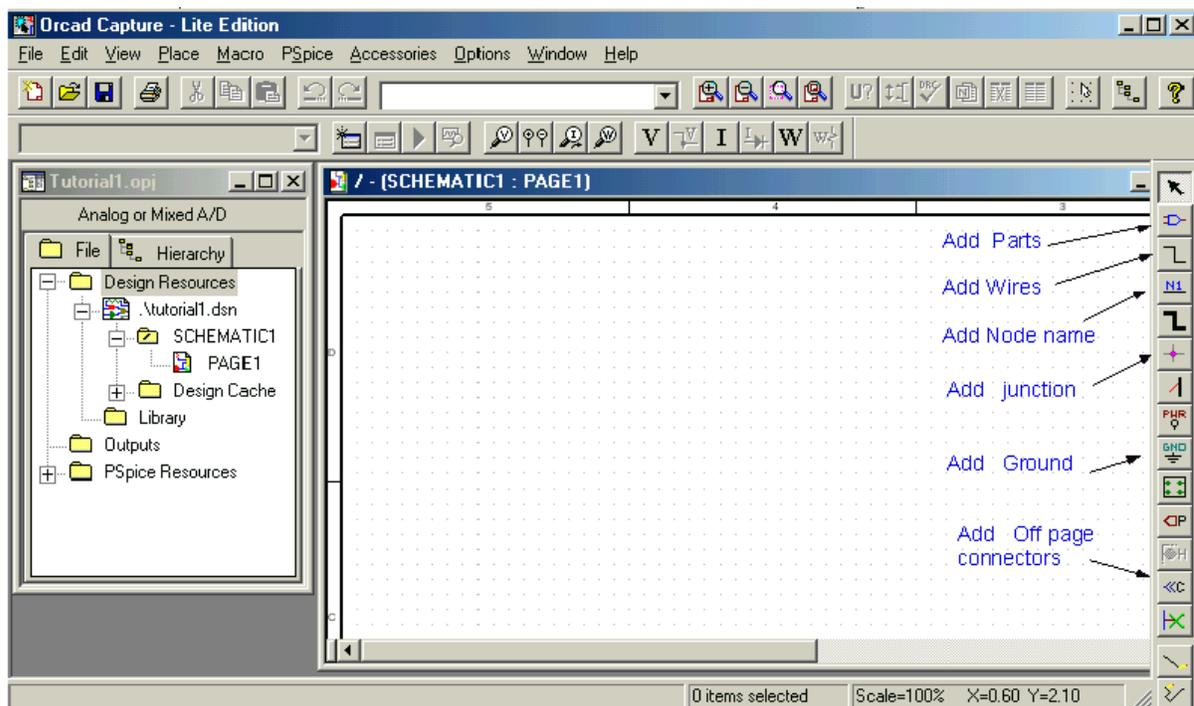

Figure 3: Design manager with schematic window and toolbars (OrCAD screen capture)
- After placing all part, you need to place the Ground terminal by clicking on the GND icon (on the right side toolbar – see Fig. 3). When the Place Ground window opens, select GND/CAPSYM and **give it the name 0 (i.e. zero)**. Do not forget to change the name to 0, otherwise PSpice will give an error or "Floating Node". The reason is that SPICE needs a ground terminal as the reference node that has the node number or name 0 (zero).